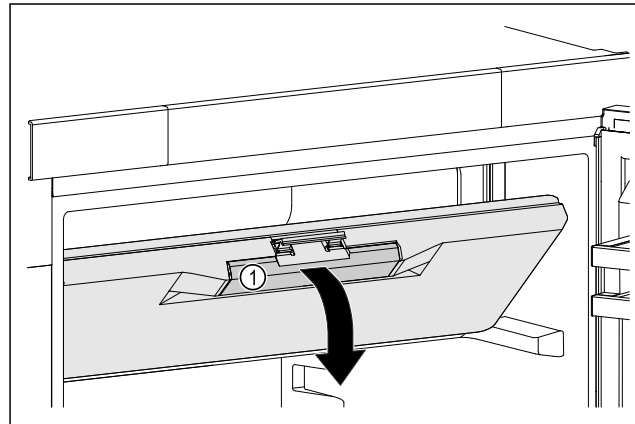

Fig. 43
- ▶ Hold the freezer compartment door by the recessed handle Fig. 43 (1).